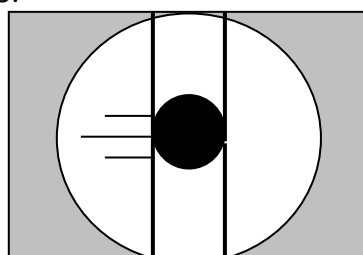

Figure 13 Move the right thin line to the right end of the indentation
• Rotate the measuring wheel so that the thin line on the right just snaps to the right end of the indentation diameter. See Figure 13.